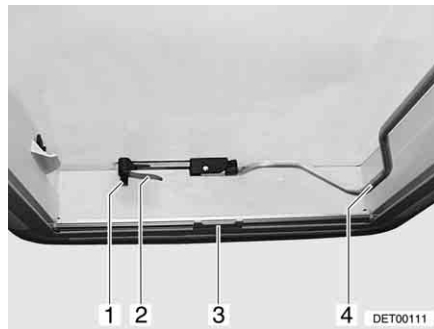
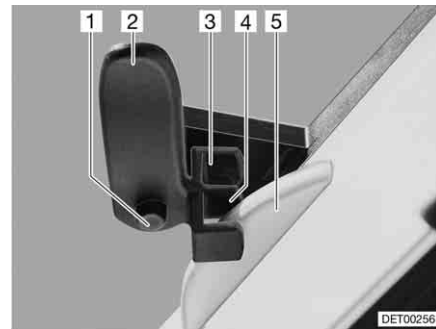

Fig. 58 Heki skylight, closed
Fig. 59 Heki skylight in ventilation position 1
Opening: ■ Press the safety knob (Fig. 58,1) and turn the catch lever (Fig. 58,2) one quarter turn inward.
■ Pull the bar (Fig. 58,4) downwards out of the latch.
Closing: ■ Pull the bar (Fig. 58,4) downwards out of the latch.
■ Turn the catch lever (Fig. 58,2 and Fig. 59,2) one quarter turn. The hook of the roof lock (Fig. 59,5) must engage in the upper locking fork (Fig. 59,3).
■ Press the safety knob (Fig. 59,1) and turn the catch lever (Fig. 59,2) back. The hook of the roof lock (Fig. 59,5) must engage in the lower locking fork (Fig. 59,4).